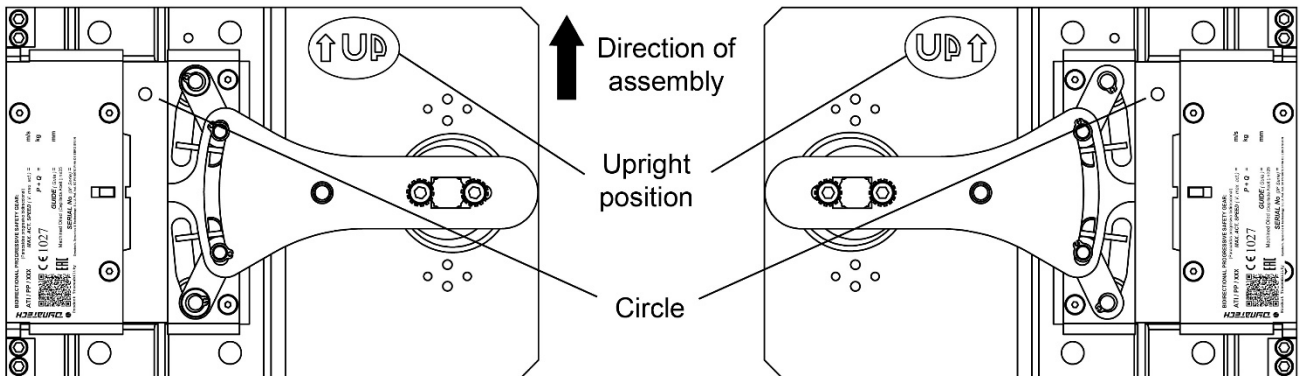

Figure 5: Direction of assembly
- a) The safety gears should be assembled in the position displayed in Figure 5